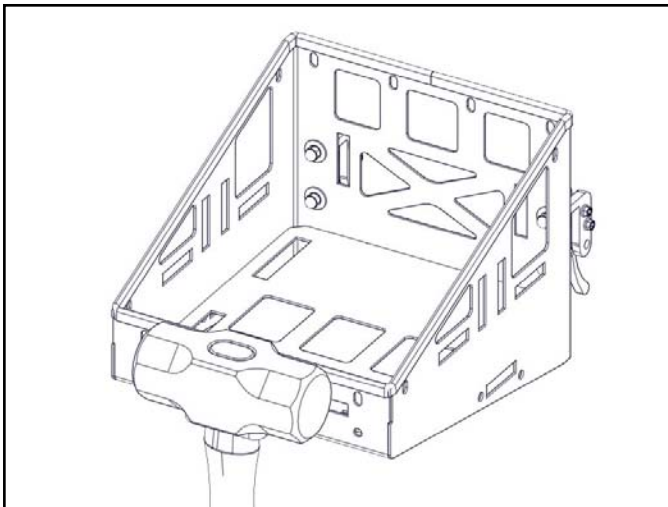
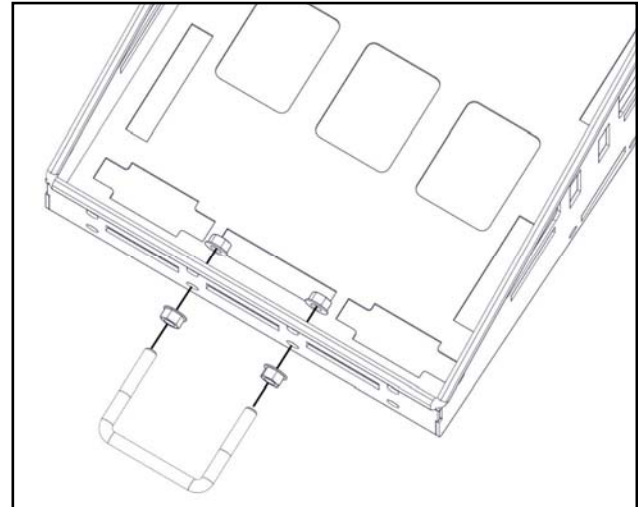

Fig. 6b (adjust U-bolt to fit sledgehammer or maul)
Fig. 6a (install U-bolt and flange nuts for maul)
6. A U-Bolt and (4) 3/8-16 flange hex nuts are included in this kit. These are for carrying a sledgehammer or maul. There are a set of holes for this U-bolt on either side of the mount and (4) holes in the front. The front hole pattern allows for 3 possible U-bolt mounting positions. Loosely install the U-bolt (in the desired location) and nuts per fig. 6a, then hand tighten. Per fig. 6b, install a sledgehammer or maul into U-bolt. Make required adjustments and tighten down the nuts. *Note: make sure that the handle for the tool clears the rear tire and 3-point hitch arms.*